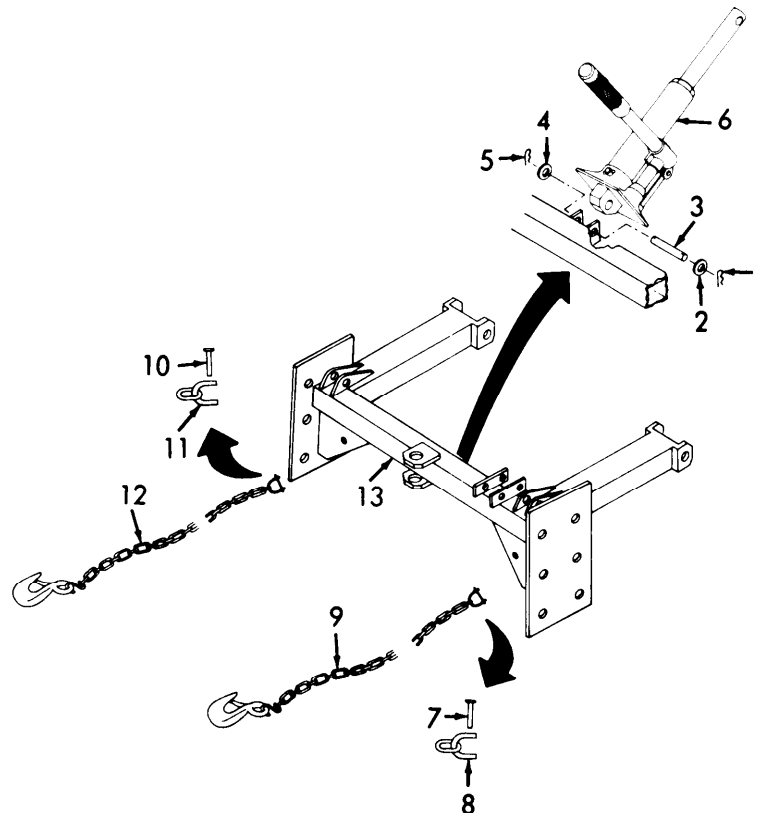

Figure 3-19. Front Axle Frame, Installation.
- (1) Install safety chains (9, and 12, Figure 3-19).
- (a) Position right safety chain (12) on front axle frame (13). Install pin (10) into left safety chain shackle (11).
- (b) Position left safety chain (9) on front axle frame (13). Install pin (7) into shackle (8).
- (2) Connect hydraulic jack (6) to front axle frame (13).
- (a) position hydraulic jack (6) on front axle frame (13).
- (b) Install pin (3), two washers (2 and 4), and two new cotter pins (MS 9245-65) (1 and 5).